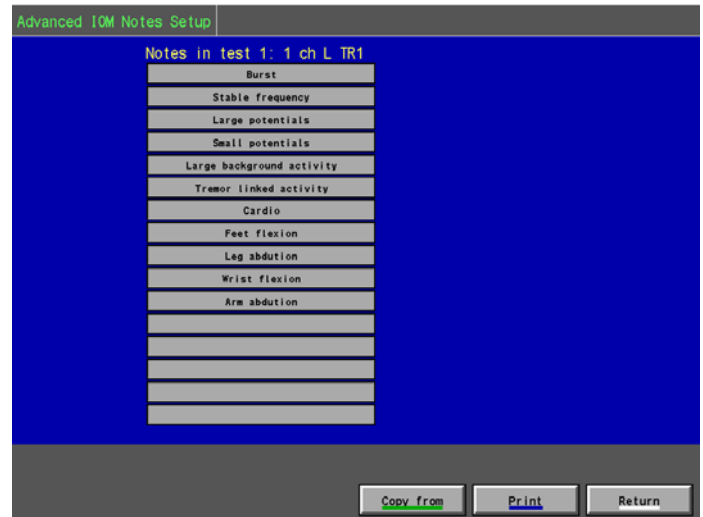

Figure 99 The Advanced IOM Notes Setup Menu.
- Press **Notes**, and the Advanced IOM Notes Setup Menu appears, see Figure 99 above.